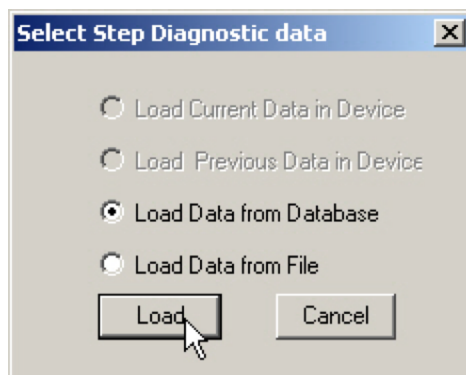

Figure 185 - Selecting Load Data from Database
1. Click the **Load Data from Database** radio button (*Figure 185*), if not already selected.